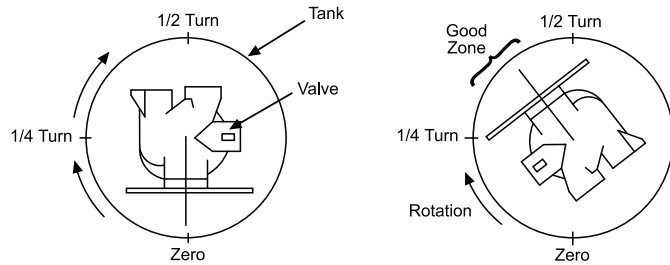

Figure 4
3. Rotate the valve clockwise from zero, between 1/4 turn and 1/2 turn (Figure 4).